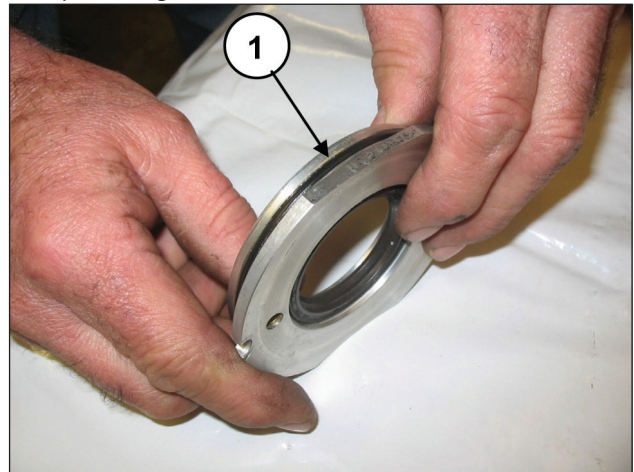
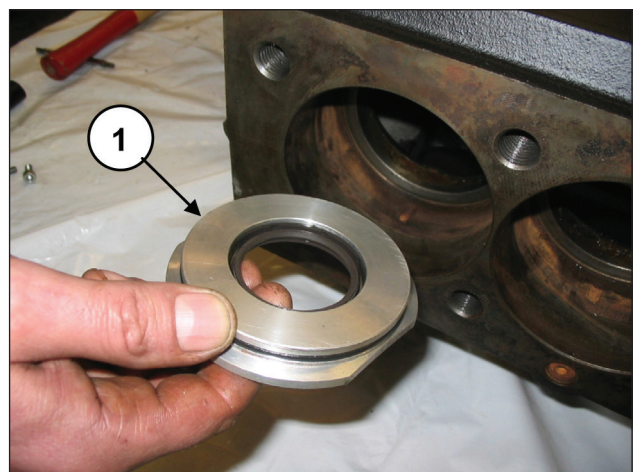

Fig. 175
Fig. 176
Position the O-ring (pos. ①, Fig. 175) in the seat of the oil seal cover and insert the assembly mounted in the casing into the seat (pos. ①, Fig. 176).